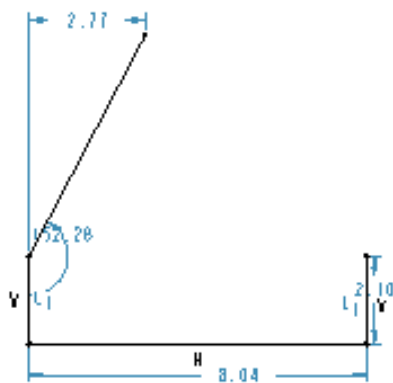

Figure 1-20 Lines with weak dimensions
- Draw lines using the line tool, refer to Figures 1-20 and 1-21.
- When the  $L_1$  constraint appears on the vertical line, click to specify the endpoint of the vertical line. Notice that the  $L_1$  constraint is displayed in gray color, as shown in Figure 1-20. This suggests that it is a weak constraint. The rubber-band line is still attached to the cursor.
- Move the cursor to size the line and specify the endpoint of the left inclined line, see Figure 1-20.
- Press the middle mouse button to end line creation. You will notice that gray colored dimensions are applied to the sketch, see Figure 1-20. The color of these dimensions indicates that these dimensions are weak dimensions. These dimensions are automatically deleted when you have completed the sketch or when you are adding dimensions and constraints manually. When system deletes weak dimensions, it does not confirm their deletion.